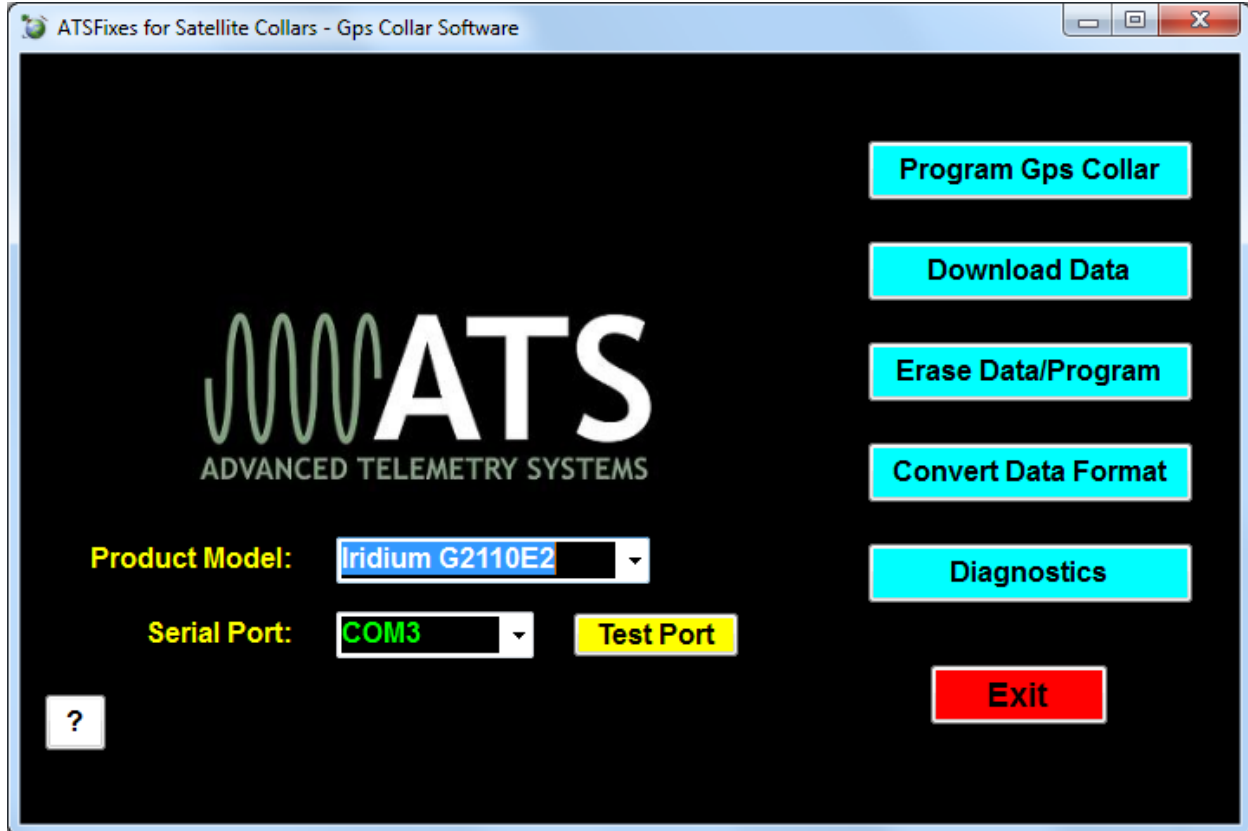

Figure 2. ATSFixes for Satellite Collars – Main Page
1. Open the ATSFixes for Satellite Collars Software. It should look similar to Figure 2. The software recognizes all available serial ports available when starting.